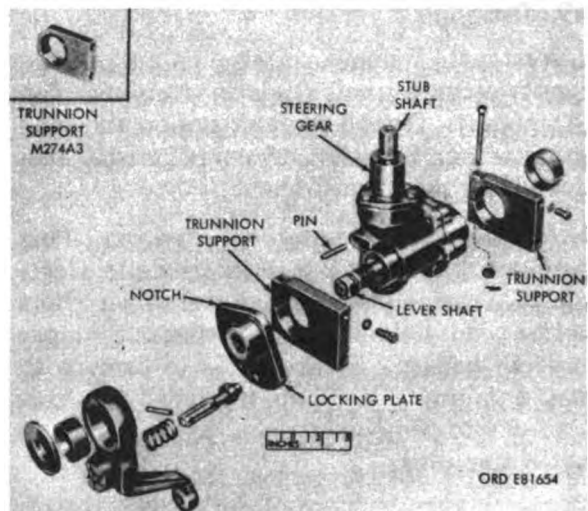

Figure 2-95. Steering gear, trunnions, and locking plate, as removed from vehicle—exploded view.
- (4) Pull locking plate (fig. 2-95) from steering gear.
- (5) Remove two cotter pins (fig. 2-95), loosen slotted nuts, and remove trunnion support from each side of steering gear assembly.
- (5) Install steering arm (par. 2-72b).
- (6) Install assembled steering shaft, steering column, and steering wheel (fig. 2-84) on top of steering gear, with steering shaft coupling inside tube on stub shaft (fig. 2-95). Turn tube until clamp near center of tube is alined with shaft tube brace (fig. 2-84) and secure brace to clamp with clevis pin (fig. 2-81) and cotter pin. Tighten two hex nuts on U-bolt clamp (fig. 2-2) to secure steering column to steering gear assembly.
- (4) Pull locking plate (fig. 2-95) off serrations on lever shaft, and remove trunnion supports from trunnions of steering gear.
- (1) Install two trunnion supports (fig. 2-95) on trunnions of steering gear.
- (3) Install steering arm (par. 2-72b).
- (4) Install steering shaft tube (fig. 2-84) with attached parts on top of steering gear with steering shaft coupling inside tube on stub shaft (fig. 2-95). Turn tube until clamp near center of tube is alined with shaft tube brace (fig. 2-84) and secure brace to clamp with clevis pin (fig. 2-81) and cotter pin. Tighten clamp bolt securing shaft tube to steering gear.
- (8) Inspect welds and reweld if welds are broken or defective.
**2-78. Steering Gear Trunnion Support (Figure 2-95)**